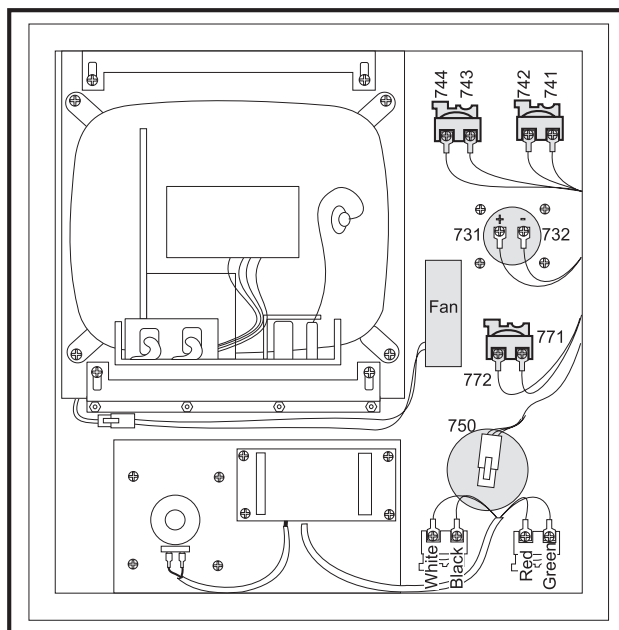

Figure 4-11. Interior of control panel (rear).
3. Disconnect all leads to the switch's connectors. Ensure all leads are properly marked for reconnecting later. Refer to Fig. 4-11 for proper locations.